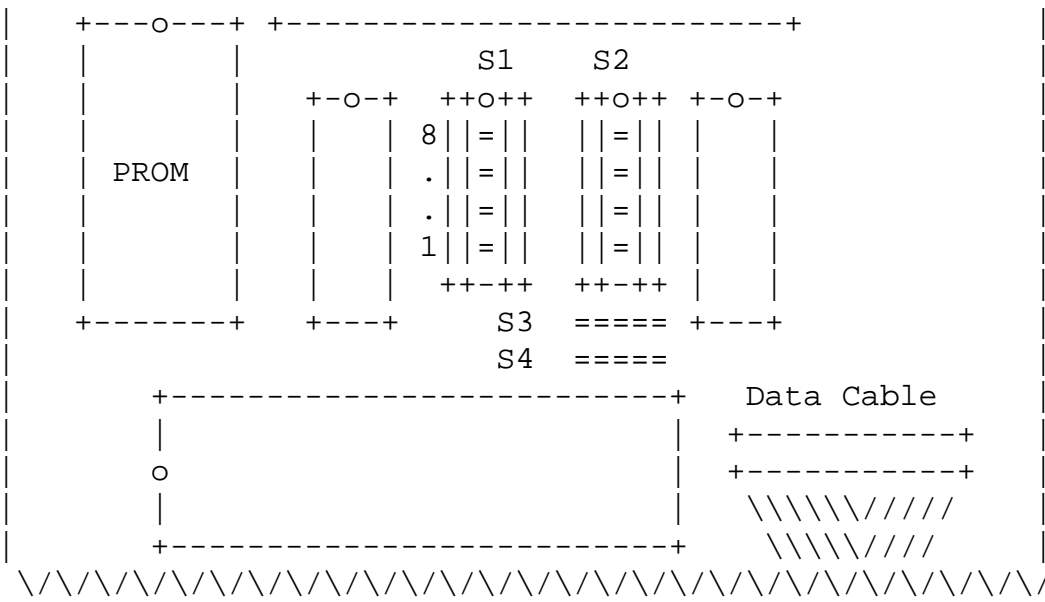

Fig 1
3. Set switches on switch PACKS S1 and S2 on the new INTERFACE MODULE from the UPGRADE KIT to the same positions as those on the original INTERFACE MODULE which has just been removed. (See Figure 1 below and User Guide, Appendix A, Page 26)